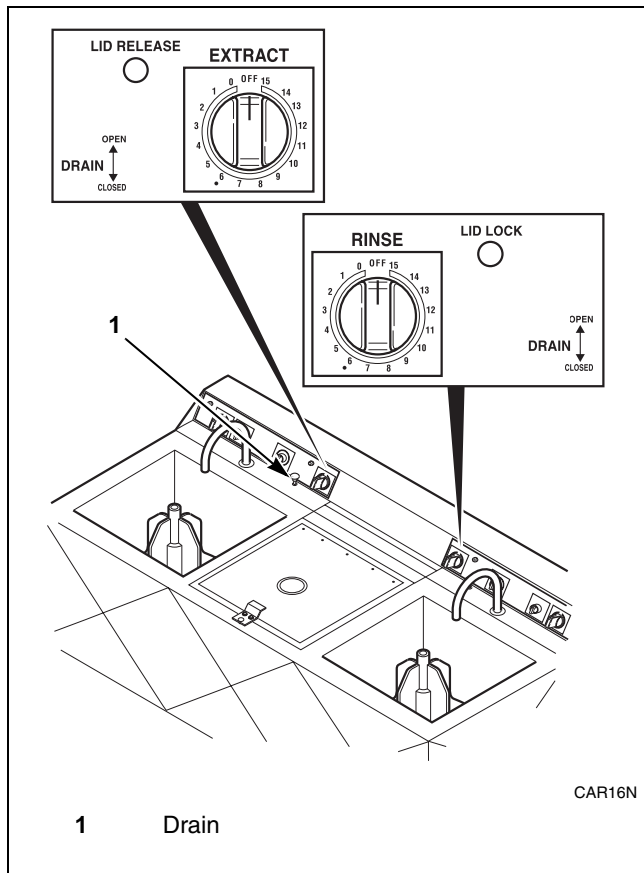

Figure 15
10. Set extract timer and rinse timer to desired cycle times. Refer to *Figure 15*. Refer to *Table 7* for recommended rinse and extract times.
11. When cycle is complete, wait until basket stops, then press LID RELEASE button to open lid. Refer to *Figure 15*.